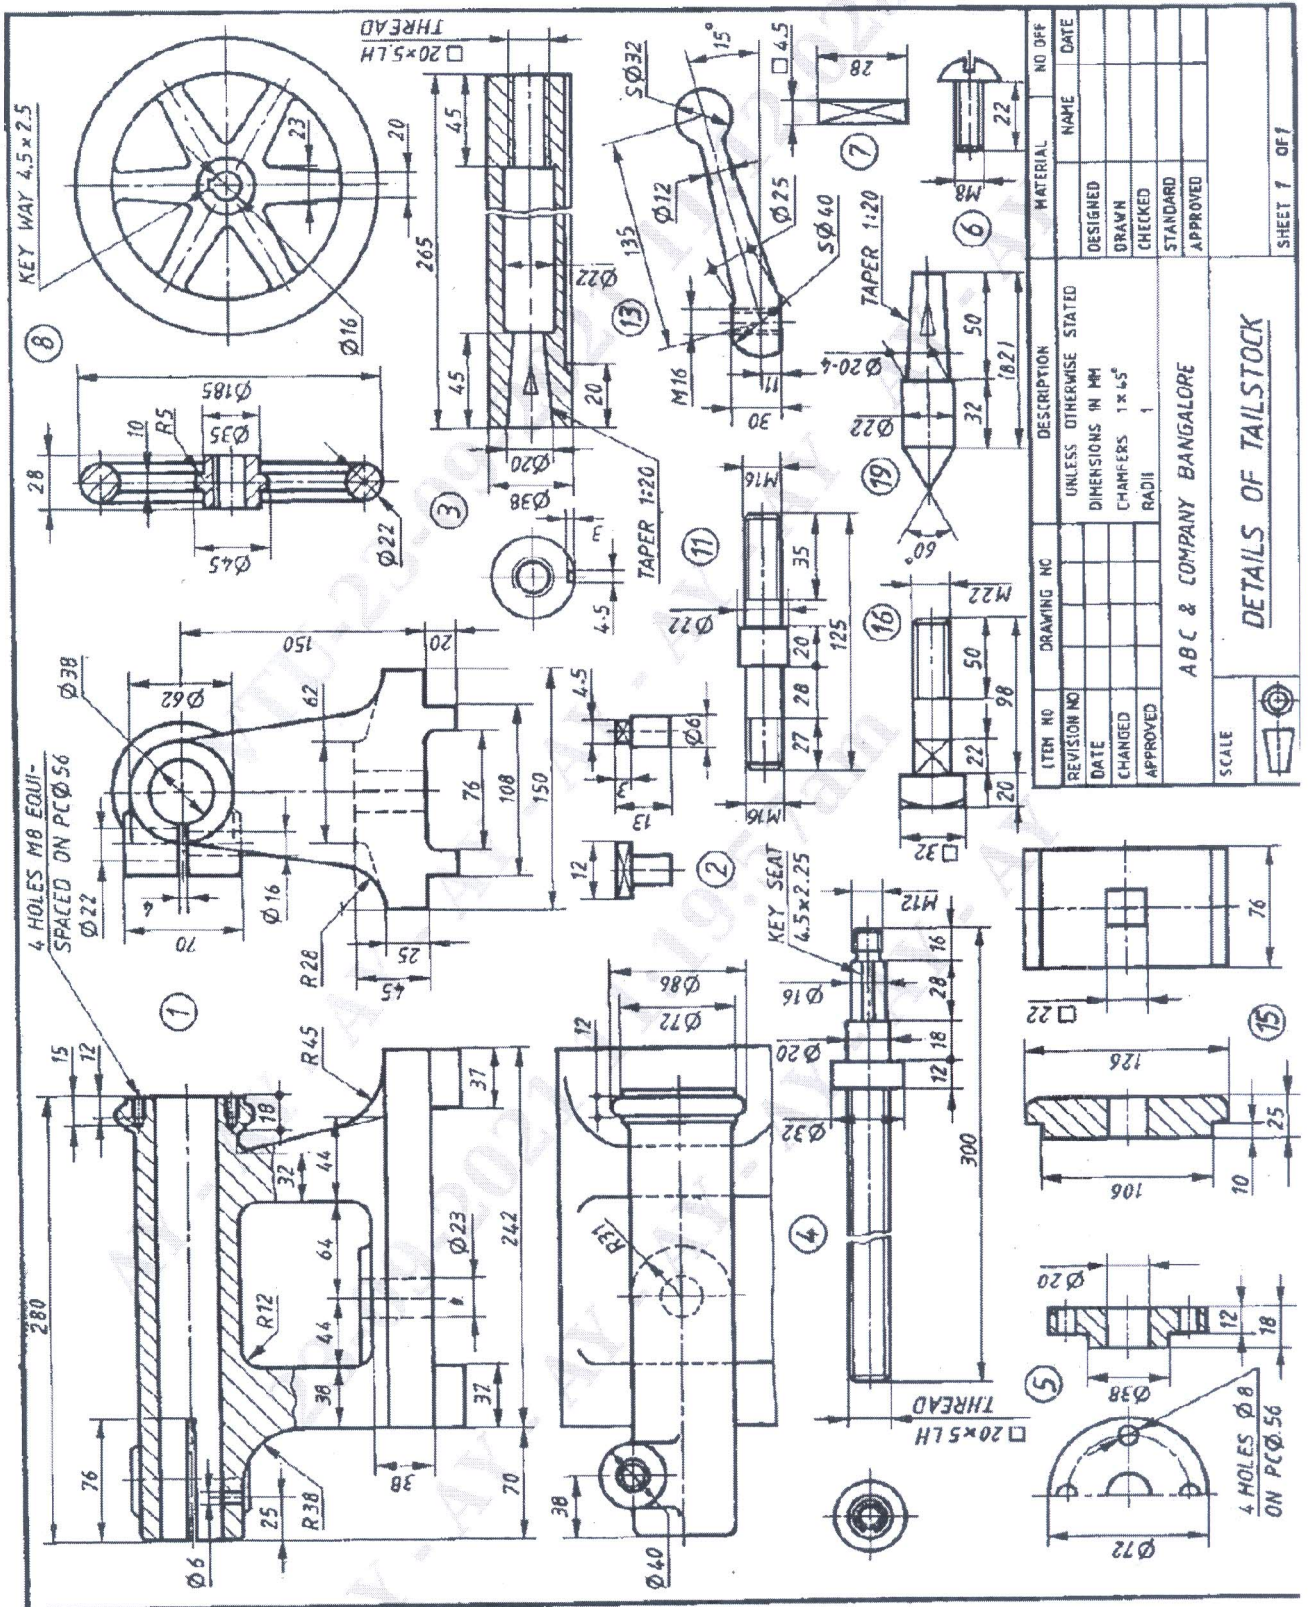

Figure 3: Details of tailstock
**Q.No.6** Figure 3 shows the part drawing of a tail stock. Assemble the tail stock and show the following views.